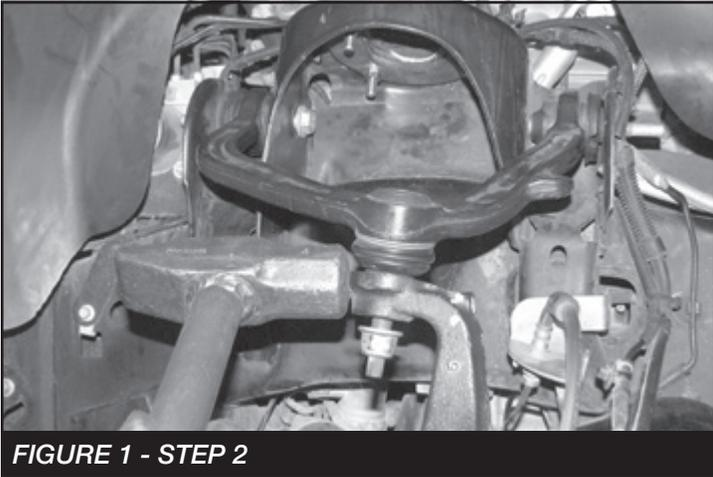

FIGURE 1 - STEP 2
2. Starting on the drivers side remove the upper ball joint nut. Disconnect the upper ball joint from the knuckle by striking the knuckle with a large hammer next to the upper ball joint on the knuckle to dislodge the ball joints. Use care not to hit the ball joints when removing. **SEE FIGURE 1**